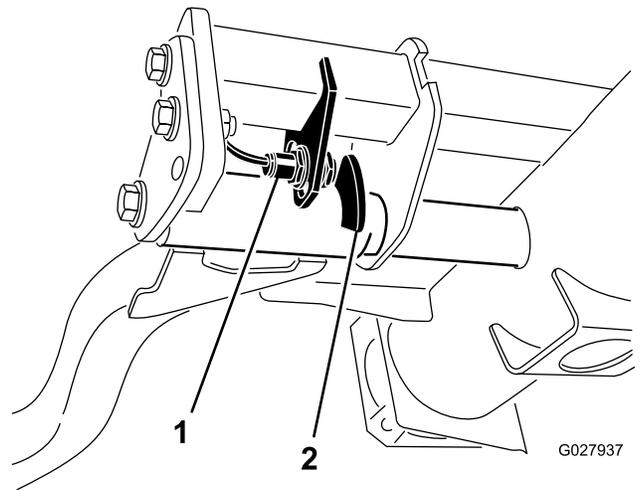

Figure 67
2. The lift-arm switch is located underneath the hydraulic tank behind the front, right lift arm (Figure 67).
3. Loosen the switch-mounting screws and move the switch down to increase the lift-arm turnaround height or move the switch up to decrease the lift-arm turnaround height (Figure 67).